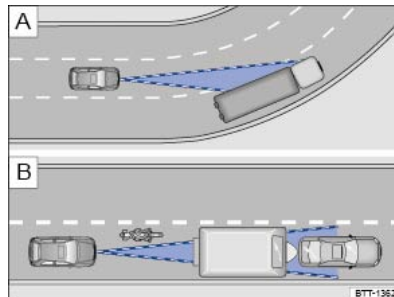

Fig. 143 Driving through bends. Vehicles outside the range of the radar sensor.
The radar sensor always measures straight ahead. For this reason, vehicles may be incorrectly detected or vehicles driving ahead not detected in tight bends ⇒ Fig. 143 **A**.
- Vehicles that are driving outside the sensor range in close proximity to your vehicle, e.g. motorbikes ⇒ Fig. 143 **B**.